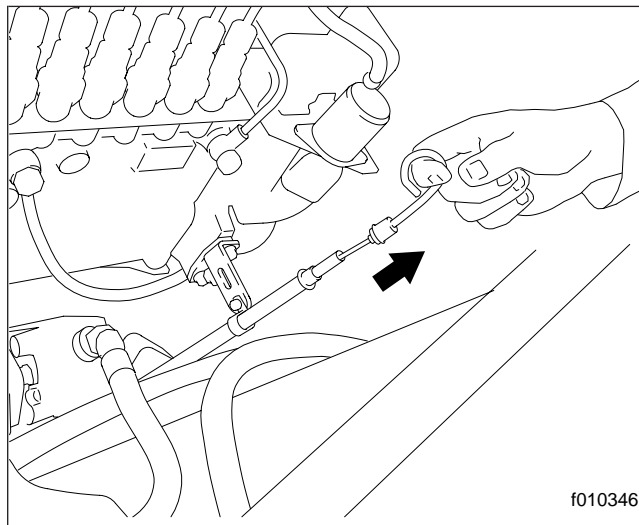

Fig. 9.1, Engine Oil Level Checking
13. Check the engine oil level (Fig. 9.1).